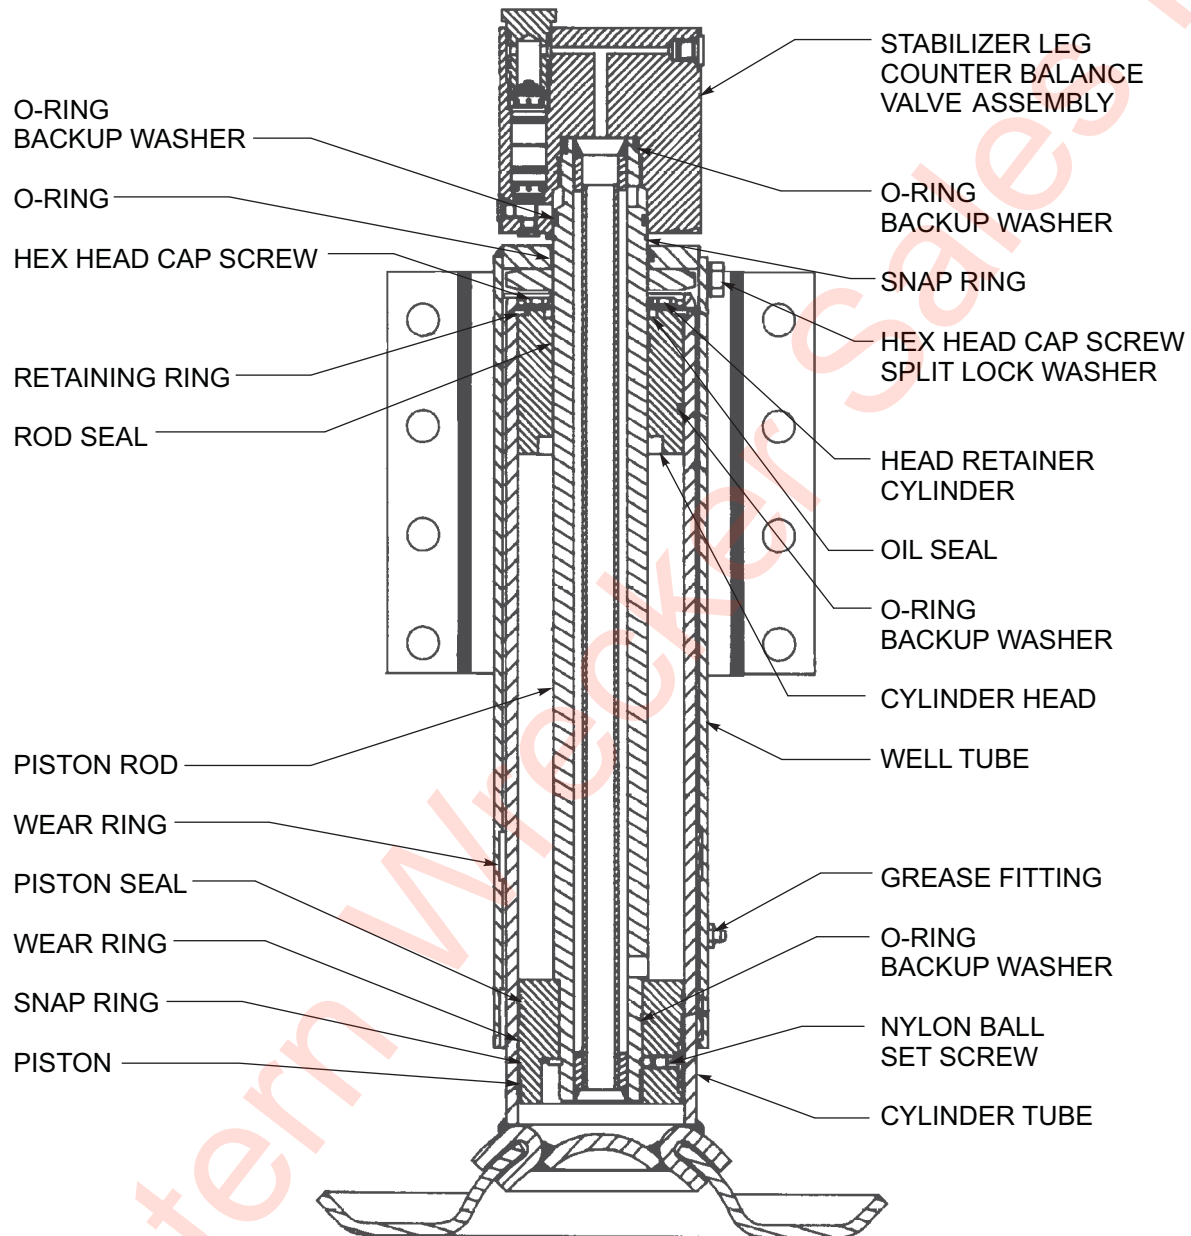

Figure 4-24: Dock Leveler Leg Assembly
2. Remove the lock valve from the leg by screwing counter clockwise (See Figure 4-24.) If you need only to repair the lock valve, it may be removed from leg while still on trailer if you have a minimum of 2" clearance above.